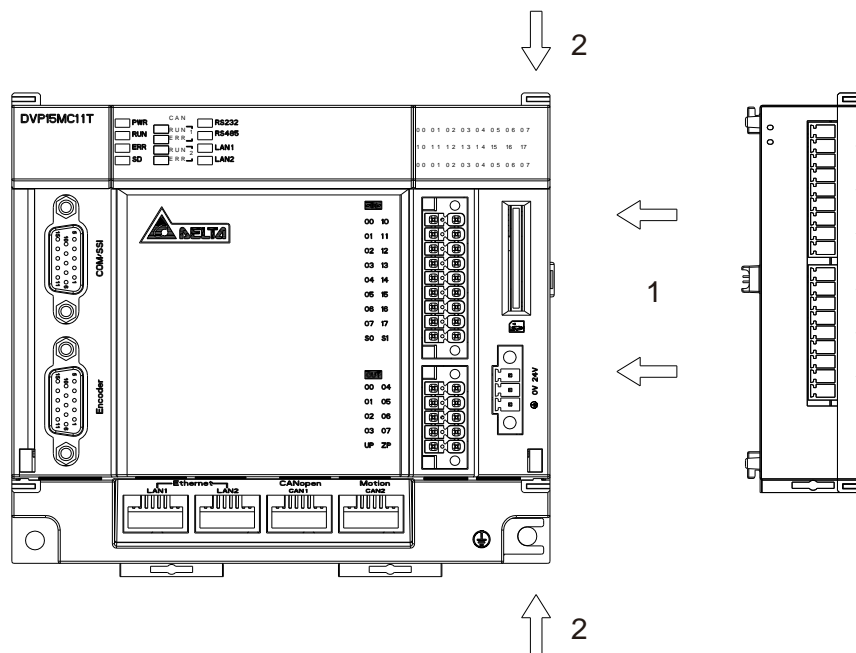

Figure 5.1.4.1
- Pull open the extension module clips on the top right and bottom right of DVP-15MC series motion controller and install DVP16SP11T along four mounting holes in the four angles of DVP-15MC series motion controller as step 1 in figure 5.1.4.1.
- Press the clips on the upper right and bottom right of DVP-15MC series motion controller to fix the module tightly and ensure that their contact is normal as step 2 in figure 5.1.4.1